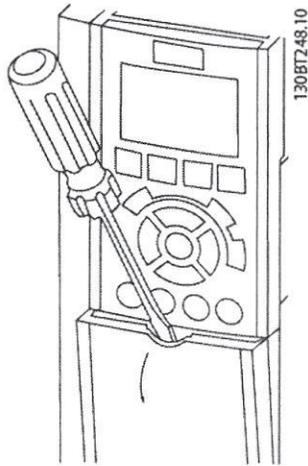
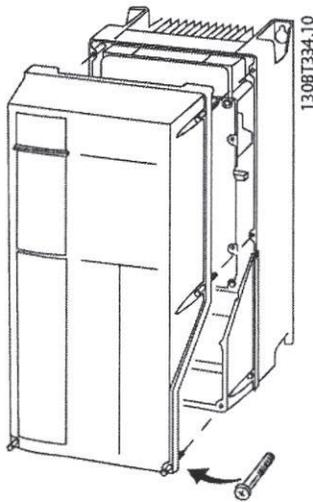

Figure 4.3 Access to Wiring for IP20 and IP21 Enclosures
Figure 4.4 Access to Wiring for IP55 and IP66 Enclosures
- Remove cover with a screwdriver (See *Figure 4.3*) or by loosening attaching screws (See *Figure 4.4*).